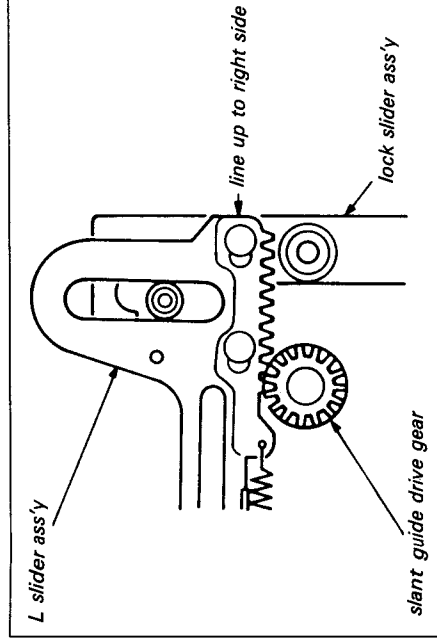
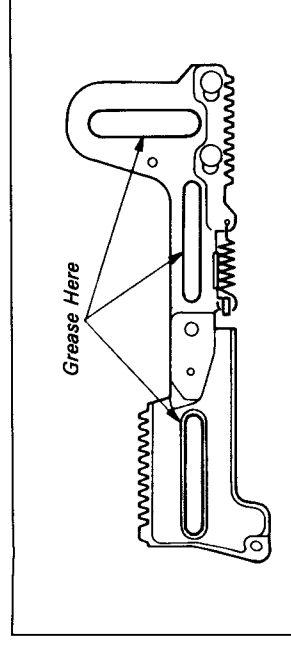

Fig. 7-27.
Fig. 7-31.
- 1) Operate the mode selector, and line up the right edge of the L slider assembly and the right edge of the lock slider assembly. (See Fig. 7-27.)
- 1) Lubricate the portions indicated in Fig. 7-31.
- 2) Mount the tension regulator load arm assembly ② and the stopper washer ⑥.
- 3) Mount the L slider assembly ④ while pushing the RL arm assembly protrusion ⑤ in the direction of arrow.
- 4) Put the tension regulator load arm assembly ② pin into the M slider groove. (Refer to 7-3-15. M slider)
- 5) Mount the two stopper washers ③.
- 6) Refer to 7-3-4. 2. Mounting, 2), and place the tension regulator load arm assembly ② pin in the tension regulator arm assembly cam groove.
- 7) Operate the mode selector, and match up the right edge of the L slider assembly and the right edge of the lock slider assembly. (See Fig. 7-27.)